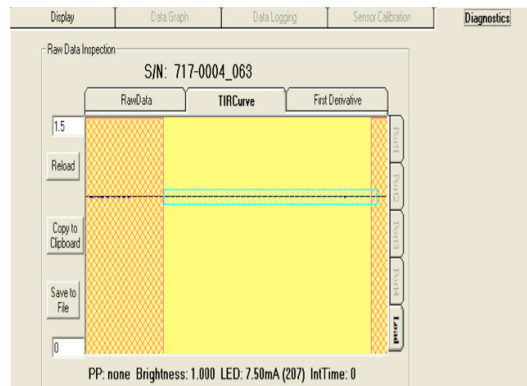

Figure 11. Flat TIR curve.
1. On the Diagnostics tab, ensure the TIR curve is flat and the "Line Quality in Air" is below 3.0e-3. See Figure 11. Flat TIR curve.